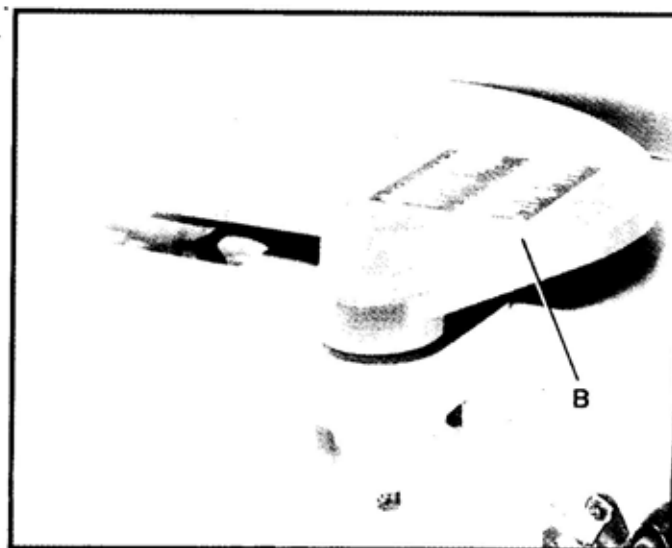

Fig. 22
4. Fig. 22, shows the cutterhead guard (B) assembled to the joint.